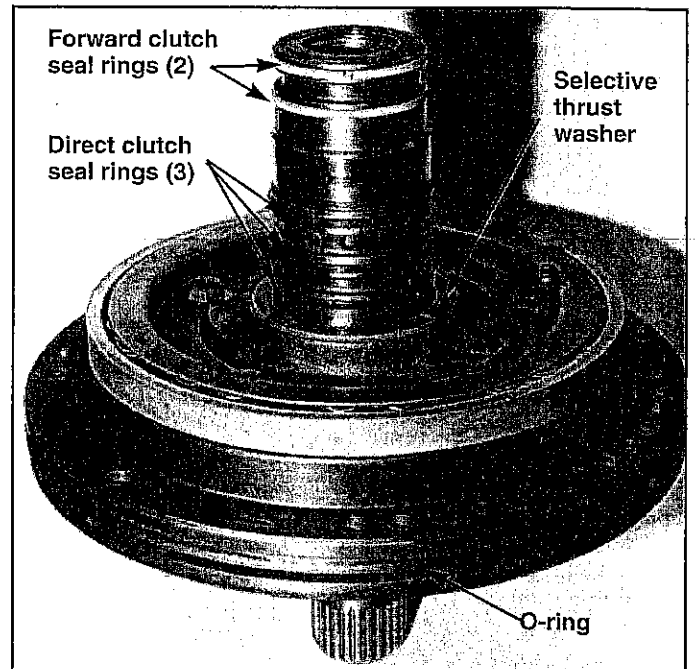

FIGURE 52
STEP 24. Install new O-ring in groove on outside diameter of pump housing. Make sure selective washer is in place on the back of the pump and install three direct clutch hook-type seal rings in place at the direct clutch ring grooves. (See Fig. 52) Spread each ring only as necessary to install it. Hook the ends of the ring together. The rings must spin freely in their grooves. If the rings do not spin freely, use a small file to deburr the grooves. Install two forward clutch hook-type seal rings in place at the forward clutch ring grooves.